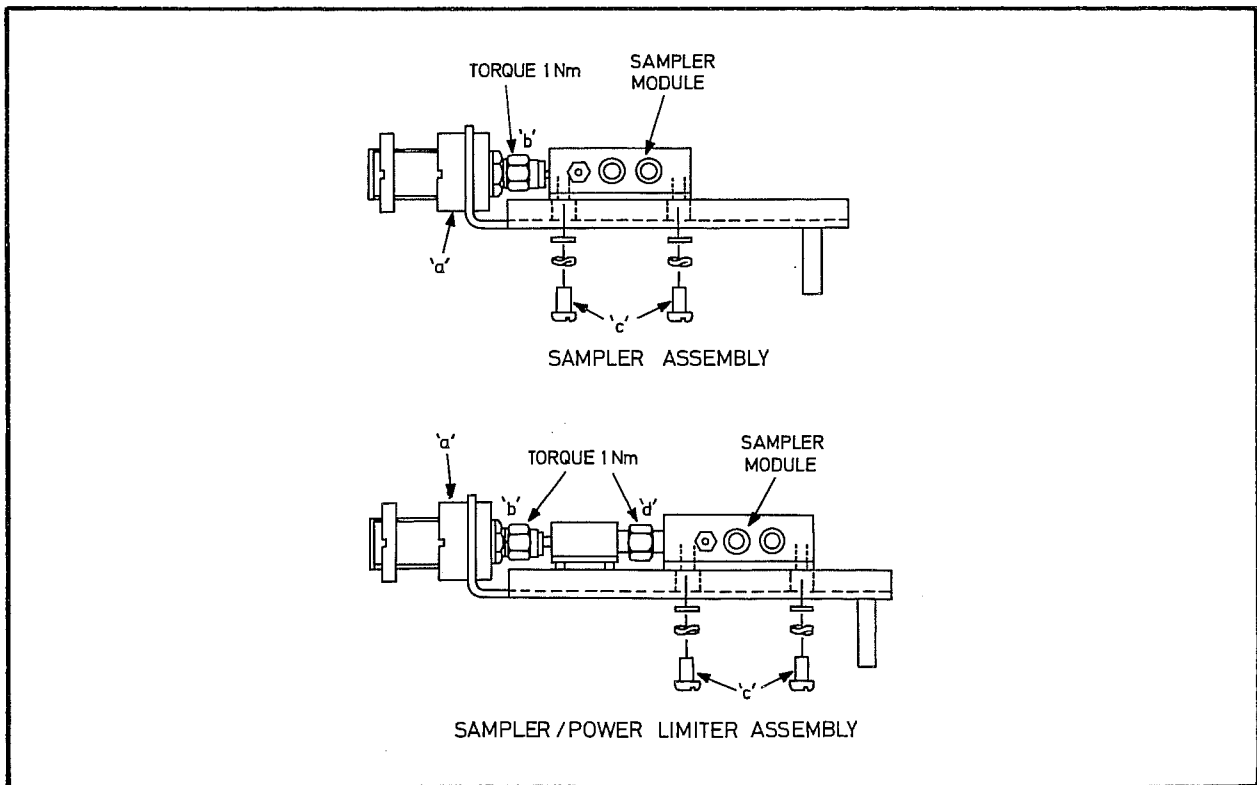

Fig. 7.1 Sampler and Sampler/Power Limiter (OPT 11) Assemblies
- 22 Refer to Fig. 7.1 when removing the module. Proceed as follows:
- (1) Loosen the two screws 'c' securing the Sampler to the bracket.
- (2) Disconnect the SMA connector 'b' from the Sampler Module.
- (3) Remove the Sampler securing screws and lift the module clear of the bracket.
- 23 Refer to Fig. 7.1 when replacing the module. Proceed as follows:
- (1) Loosen Input C connector ring nut 'a', then retighten finger-tight.
- (2) Connect Sampler Module 17-1102 to connector 'b' finger-tight only.
- (3) Fit the Sampler securing screws 'c' finger-tight only.
- (4) Tighten connector 'b' to 1 Nm using the SMA torque wrench.
- (5) Fully tighten Input C connector ring nut.
- (6) Fully tighten the Sampler securing screws 'c'.
- 24 Refer to Fig. 7.1 when removing the module. Proceed as follows:
- (2) Disconnect the SMA connector 'd' from the Sampler Module.
- 25 Refer to Fig. 7.1 when replacing the module. Proceed as follows:
- (2) Connect Sampler Module 17-1102 to connector 'd' finger-tight only.
- (4) Tighten connector 'd' to 1 Nm using the SMA torque wrench.
- (5) Fully tighten Input C connector ring nut 'a'.
26 Refer to Fig. 7.1 when removing the module. Proceed as follows:
27 Refer to Fig. 7.1 when replacing the module. Proceed as follows: